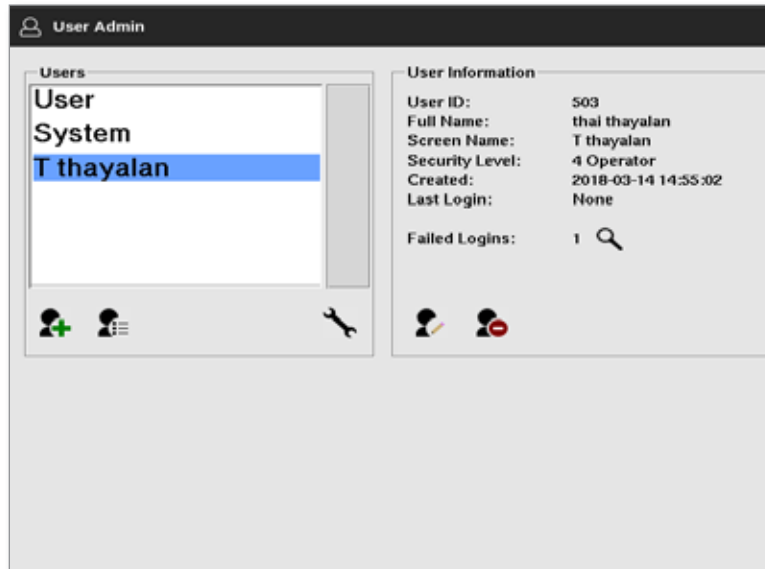

Figure 7-3 User Admin screen - user details
Choose the user name. See Figure 7-3.
1. Choose the required user. The user will be highlighted in blue. See Figure 7-3.